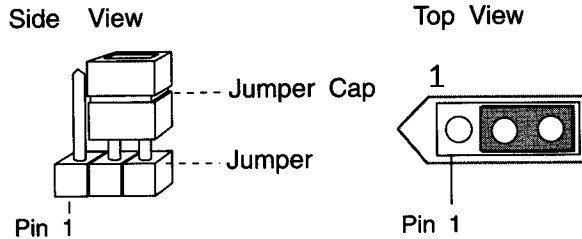

Figure 3-3. Typical jumper
Figure 3-3 shows the side and top views of a three-pin jumper in which pins two and three are closed.
- A box with one pointed end printed around the jumper, with the pointed end being pin 1 (see Figure 3-3, top view).